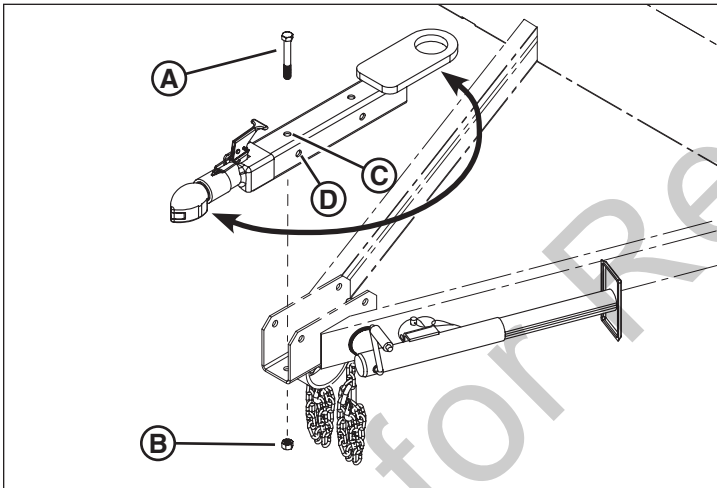

Figure 10
2. Remove the two hex head screws (A, Figure 10) and lock nuts (B) securing the tubular portion of the lunette eye to the tongue. Discard the lock nuts. Do not remove the two hex head screws and lock nuts securing the trailer coupler to the lunette eye.
4. Insert the two hex head screws removed in Step 1 through the appropriate holes in the tongue and through the holes in the tubular portion of the lunette eye (C, D, Figure 10).